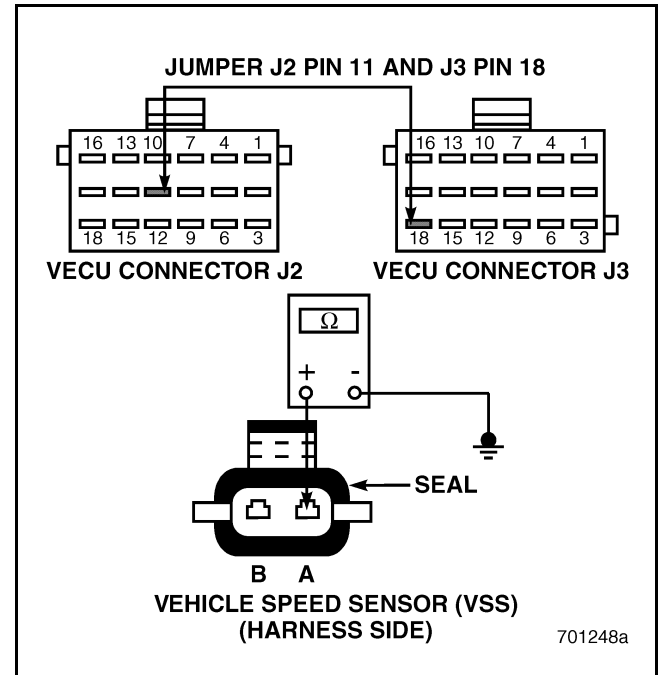

Figure 449
5. On the harness side of the VSS connector, check for continuity between pin A and a good ground (see Figure 449).